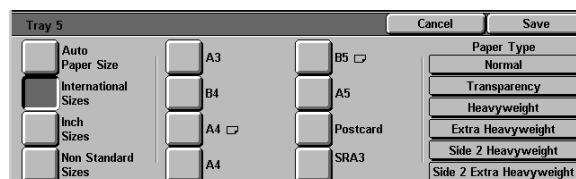

Figure 28: Tray 5 International Paper Sizes
- Touch **International** sizes and select one of the preset international sizes, such as A3 or A4, as shown in Figure 28.